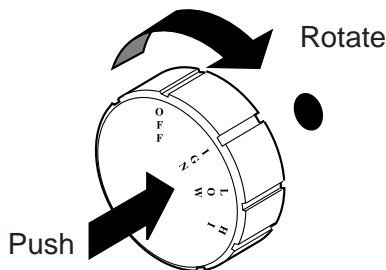

Figure 45 - IGN Position
6. From OFF position, push in gas control knob slightly and turn counterclockwise  to the IGN position. See *Figure 45*. Push in and hold control knob for 5 seconds.
4. Refer to *Figure 45, page 30* for the location of the piezo ignitor and control knob. Turn control knob clockwise  to the OFF position.